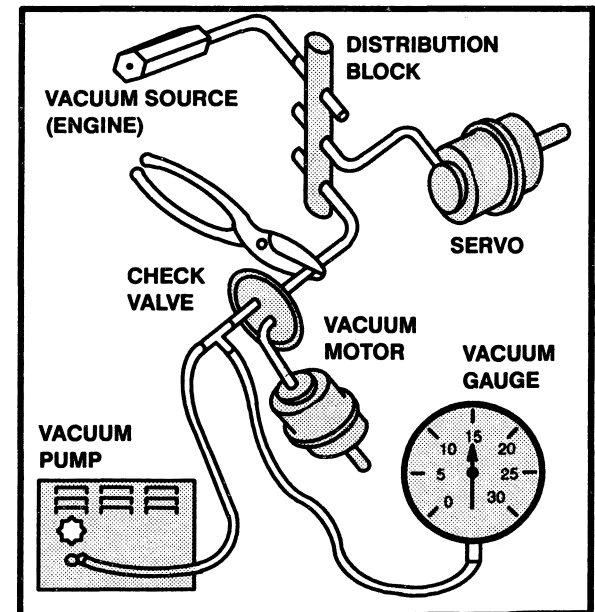

Figure 2 - Testing For Leaks In Typical Vacuum System
1. Connect Vacuum Gauge and Vacuum Pump (Figure 2) to system hose in place of tank.
6. Clamp supply hoses with needlenose pliers, one at a time, until vacuum stops dropping (Figure 2).